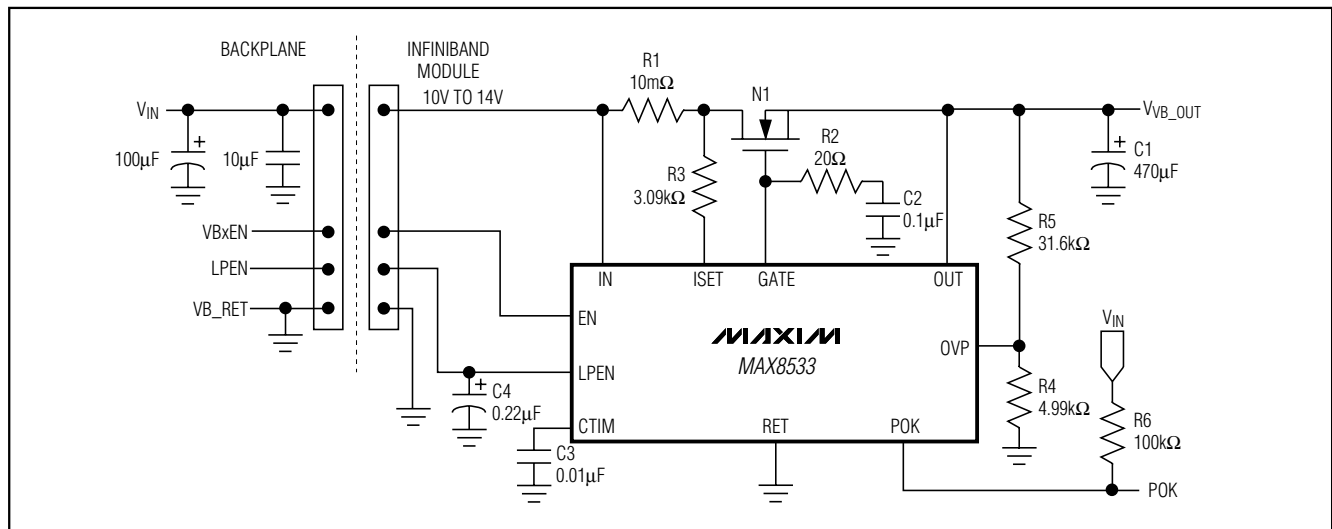

Figure 2. Typical 50W Applications Circuit
**Note 1:** The current regulation threshold is set by R3 (Figure 2). It is equal to  $20\mu A \times R3$ .
The MOSFET turn-on ramp rate is determined by the capacitor (C2) at GATE (Figure 2). An internal  $10\mu\text{A}$  current source charges C2 to bring GATE high. The soft-start rate is determined as follows:
The MAX8533 has an adjustable overvoltage protection feature that latches the IC off in case of an overvoltage event. An external resistor-divider (R4 and R5, Figure 2) from OUT to RET with OVP connected to the center, sets the overvoltage threshold. Use 4.99kΩ for R4. R5 is determined using the following equation: